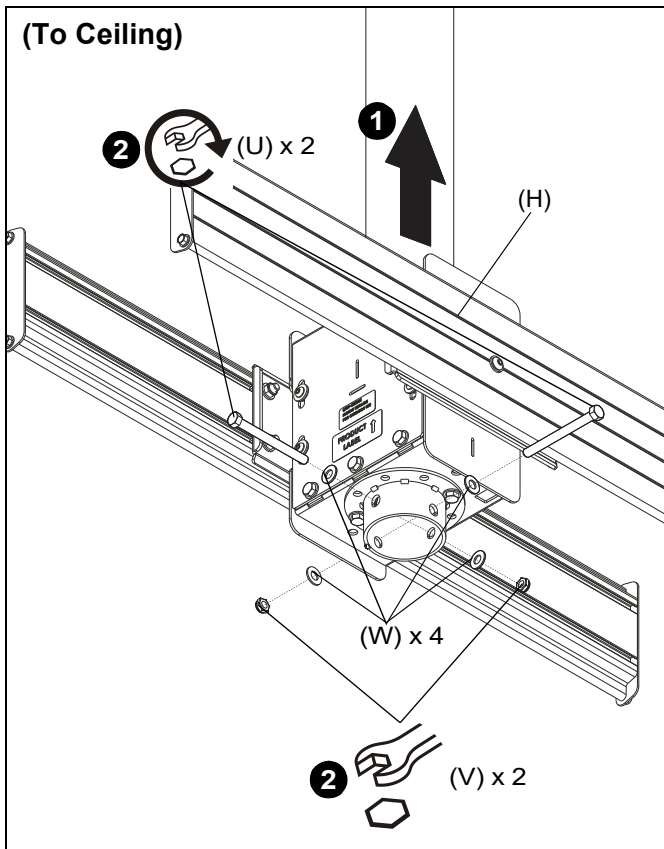
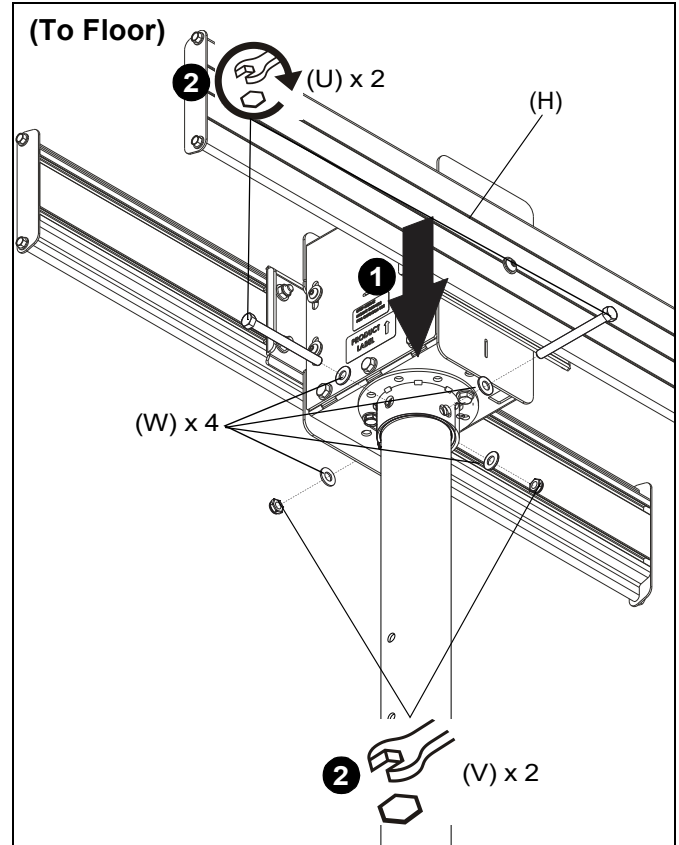

Figure 1
Figure 2
1. Slide mount assembly (H) onto ODAC Series Floor/Ceiling Column. (See Figure 1) or (See Figure 2)
2. Use two 3/8-16 x 4 1/4" hex head tapping bolts (U), four 3/8" washers (W) and 3/8-16 hex nuts (V). (See Figure 1) or (See Figure 2)